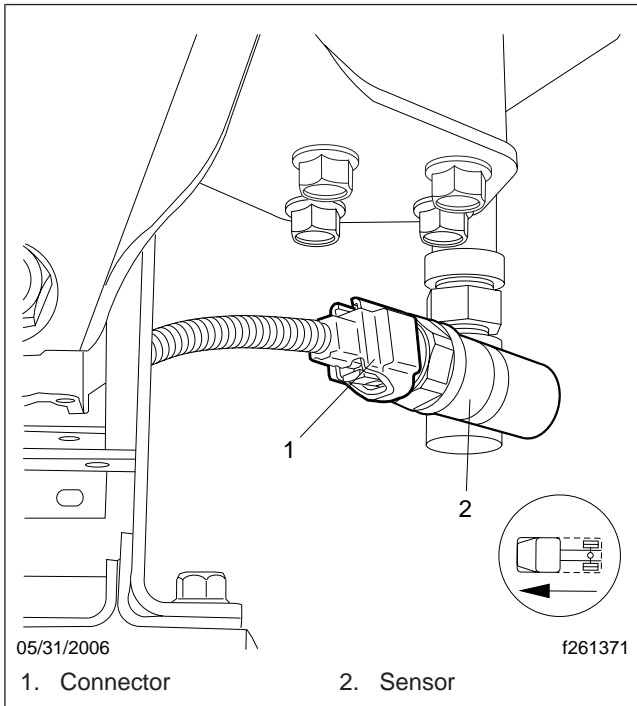

Fig. 14, VSS Installed at a 45-Degree Angle
- 10.5 Install the harness at the vehicle speed sensor (VSS) and adjust the sensor to a 45-degree angle. See Fig. 14.